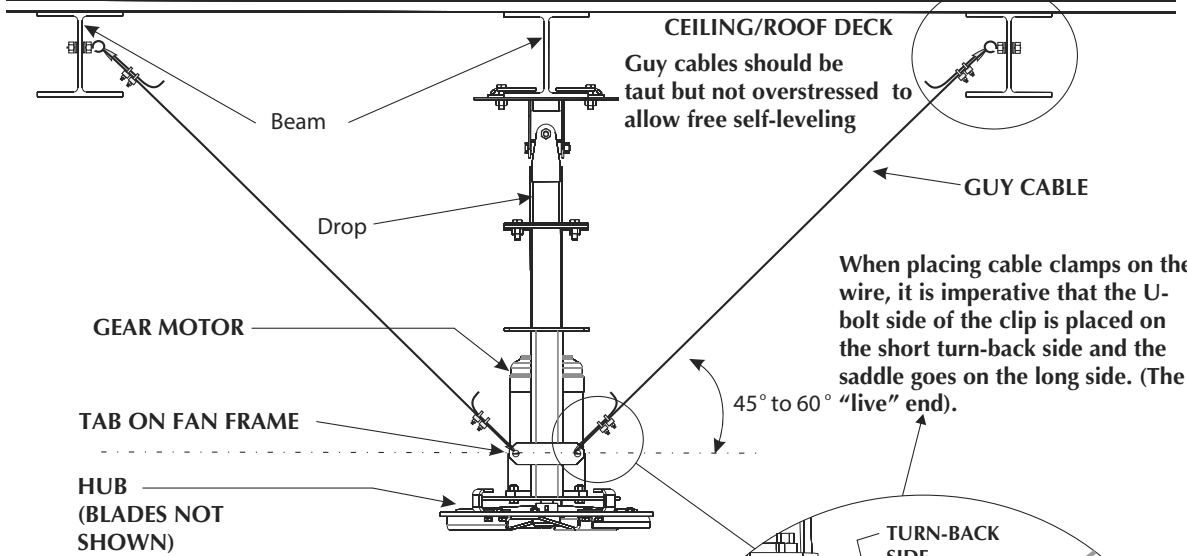

FIGURE 9
STRUCTURAL NOTE: Guy cables must be installed or fastened to a structural component of the building at the angle shown in **Figure 9** and **Figure 11**.
2. Using a 3/8" wrench, install eye bolt with nuts and washers in I Beam as per **Figure 9**.